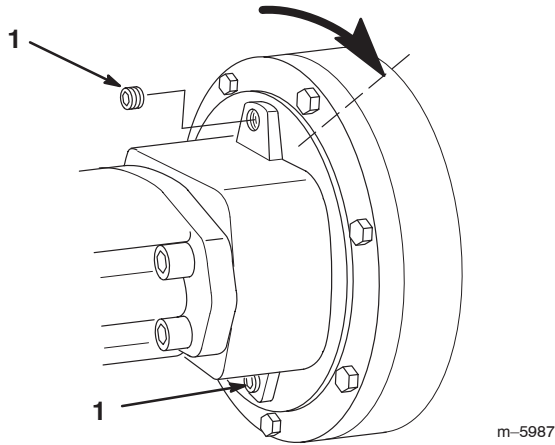

Figure 8
2. Rotate the drive head so that one of the oil drain plugs is located on top (Fig. 8).
3. Remove the upper oil drain plug (Fig. 8)
4. Rotate the auger drive head so that the drain opening is at the 2 o'clock position (Fig 8). Oil should just begin to come out of the opening.
1. Support the drive head over an oil pan so that one of the oil drain plugs (Fig. 8) is on the bottom of the drive head, facing the oil pan.